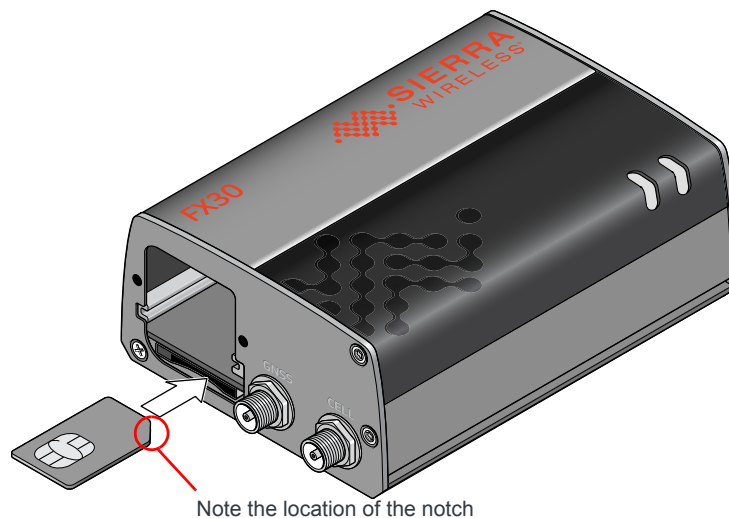

Figure 2-1: Installing the SIM card
2. Orient the SIM card, as shown in Figure 2-1. The gold contacts on the SIM card face up.